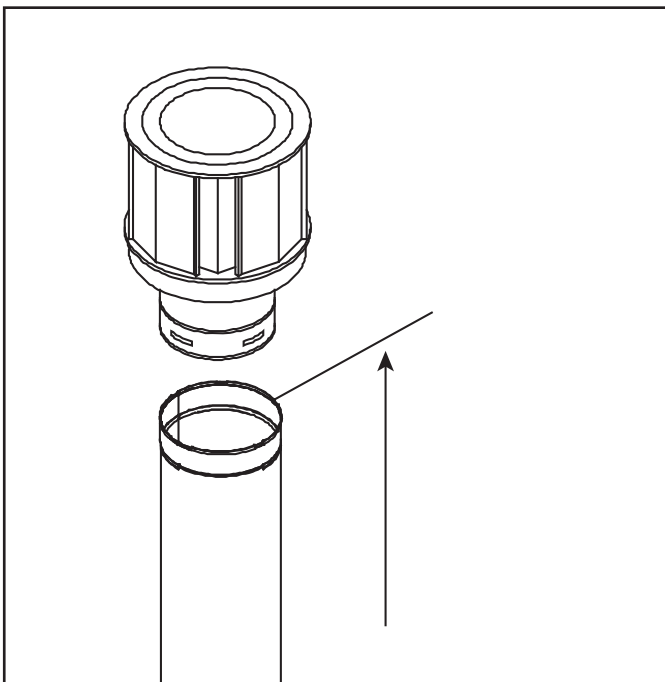

Figure 4.7. Measure to Top of Last Section of Pipe
- Vertical terminations are measured to top of last section of pipe. See Figure 4.7.
- HEIR36(NG/LP), HEIR42(NG/LP) and HEIR50(NG/LP) models require a minimum of 36 inches of vertical venting before attaching any elbow to the appliance for the venting configuration in Figure 4.7.